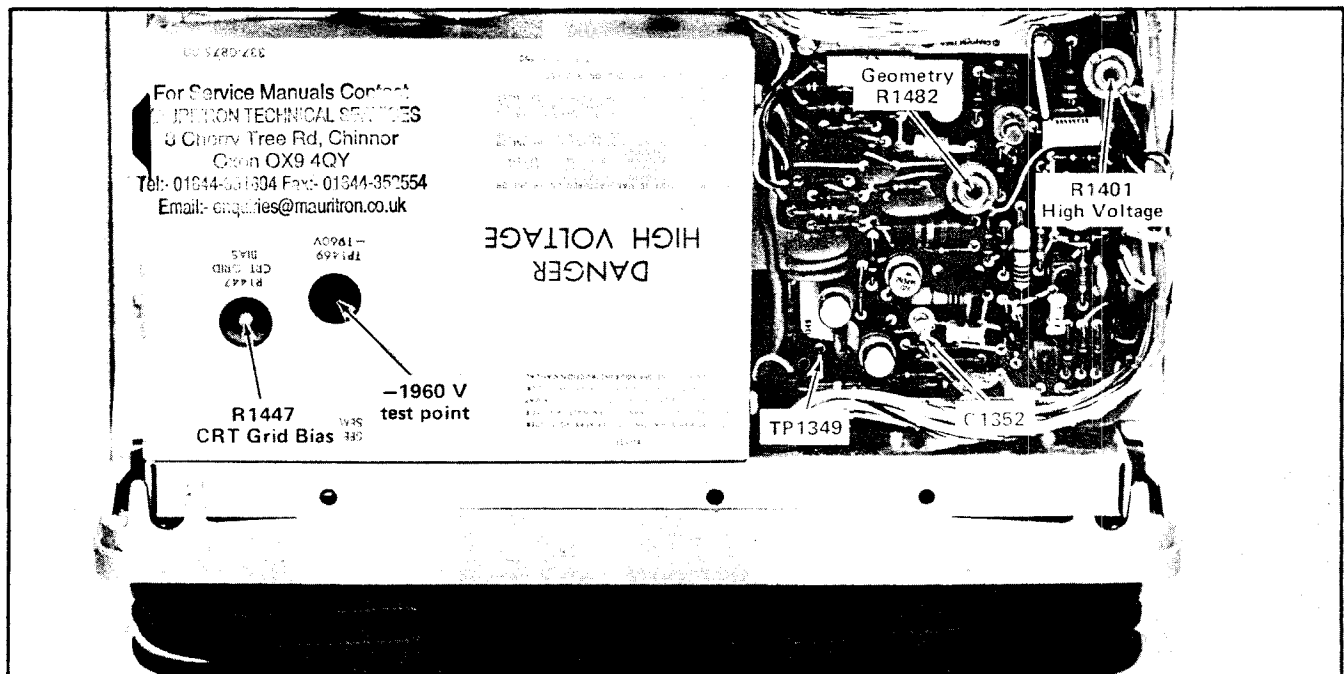

Fig. 5-5. Location of high-voltage and Z-AXIS adjustments and test-points.
a. Connect the precision DC voltmeter (use the precision 2 kV divider) between the -1960 V test point (see Fig. 5-5) and chassis ground.
c. ADJUST—High-Voltage adjustment R1401 (see Fig. 5-5) for a meter reading of -1960 volts (± 19.6 volts).
a. Connect the precision DC voltmeter between TP1349 (Z Axis Amplifier board; see Fig. 5-5) and chassis ground.
d. ADJUST—CRT Grid Bias adjustment, R1447 (see Fig. 5-5), so the spot on the CRT just disappears (it may be necessary to turn the horizontal POSITION control clockwise to bring the spot onto the viewing area).
c. ADJUST—Geometry adjustment, R1482 (see Fig. 5-5 for minimum bowing of the trace at the left and right edges of the graticule).
b. Connect the 10X probe tip to TP1349 (see Fig. 5-5).
f. ADJUST—C1352 (see Fig. 5-5) for optimum square corner on the unblanking gate.